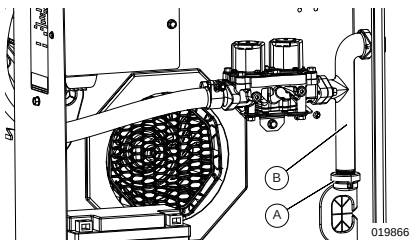

Figure 4-6. Cleaning the Sediment Trap
5. See Figure 4-6. Unscrew and remove cap (A).